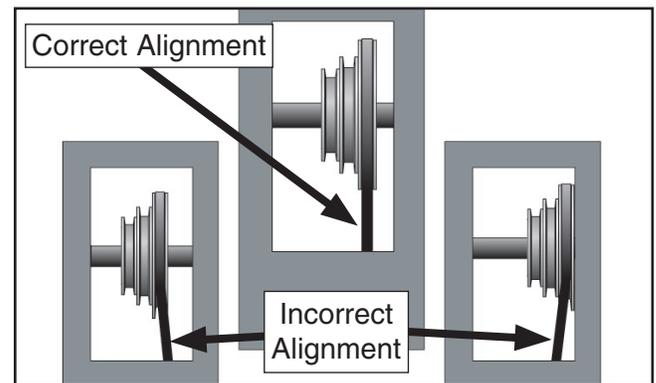

Figure 49. Proper belt alignment.
5. Adjust the spindle pulley position on the spindle shaft to ensure proper belt alignment (**Figure 49**), then tighten the pulley set screw.